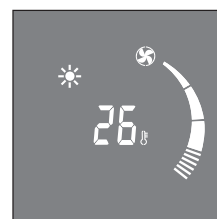

Fig. 9.
- When the tank is full, the unit shuts down and "FL" (full tank) appears on the display. The tank cap must be opened and emptied (fig.9). Run off all water left into a basin. When all the water has been drained, put the cap back in place.